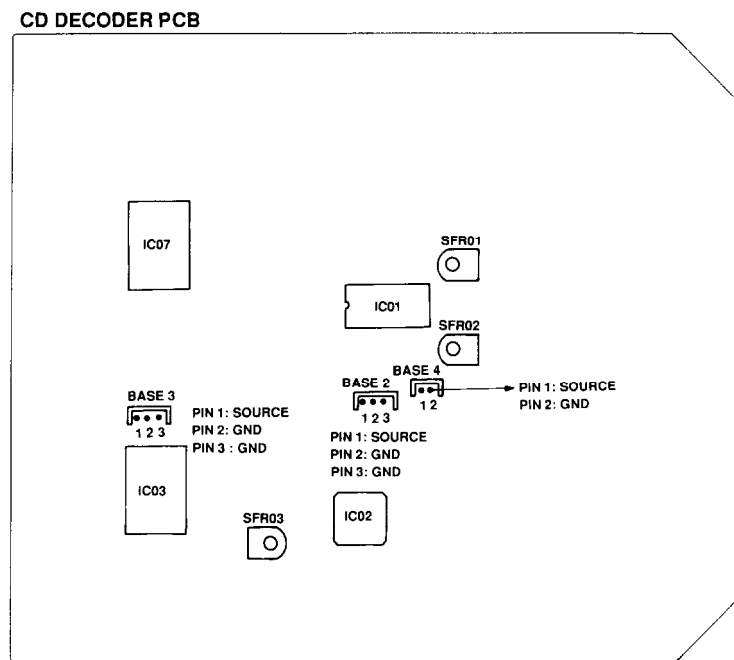

Figure 8
- Base 3 pin 2 & pin 3 short, digital counter connected to base 3 pin 1 & GND. (See Fig. 8)
- Adjust SFR03 for a counter reading of $4.233\text{MHz} \pm 10\text{kHz}$. (See Fig. 8)
- DC voltmeter connected to base 4. (See Fig. 8)
- Adjust SFR02 for a meter reading of $-50\text{mV} \pm 5\text{mV}$. (See Fig. 8)
- Base 2 pin 2 & pin 3 short, oscilloscope connected to base 2 pin 1 & GND. (See Fig. 8)